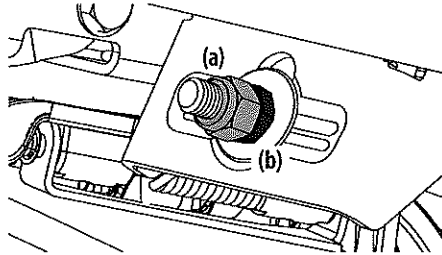

Figure 38
5. To raise the front of the deck, remove the end cap, loosen the outer jam nut (a) then tighten (thread inward) the inner nut (b) against the front hanger bracket. See Figure 38. When proper adjustment is achieved, re-tighten the outer jam nut (a) and replace the end cap.
6. To lower the front of the deck, remove the end cap, loosen the outer jam nut (a) then loosen (thread outward) the inner nut (b), away from the front hanger bracket. See Figure 38. When proper adjustment is achieved, re-tighten the outer jam nut (a) to 57 ft-lbs. (77 N-m) and replace the end cap.